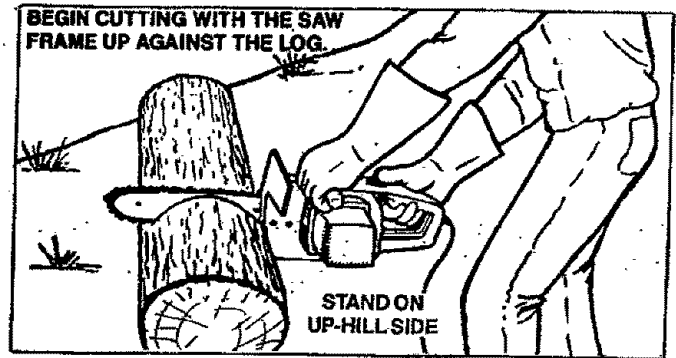

Figure 17
- Plan to stand on the up-hill side when cutting on a slope. Figure 17.
- Begin cutting with the saw frame and spikes against the log. Figure 17.